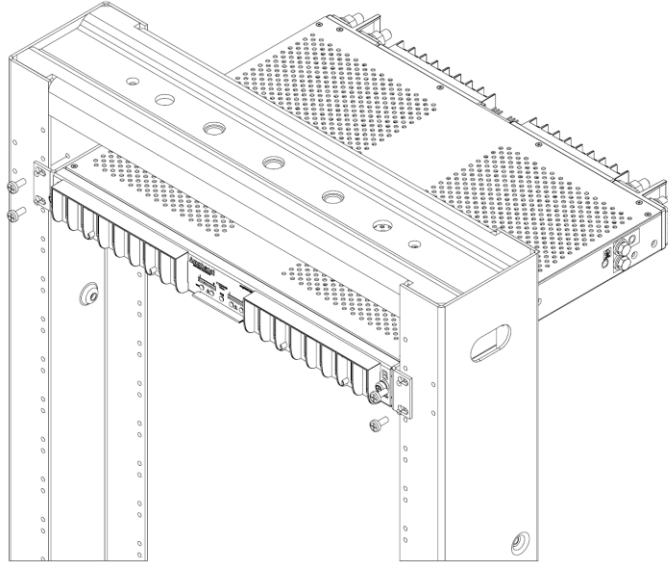

Fig. 2-5: Installing Panel in Rack
8. Locate an unused rack position and mount the panel using two sets of fasteners per side, as shown in Fig. 2-5. Mount the panel as high as possible on the rack. Use a seismic rack for best rigidity.